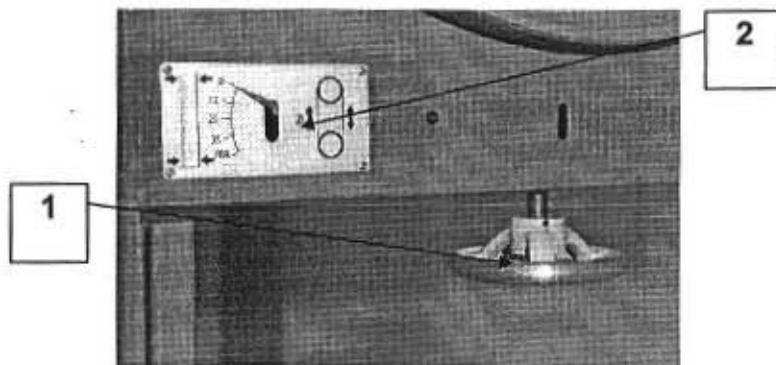

Figure 5.4
2. Turn handwheel (1) Fig 5.4, until blade can be pulled 6 mm (1/4") from its true line at central point between wheels. Blade is then tensioned correctly.
- 3) Tighten lock nut (1).
5.4 Tensioning a Saw Blade (using Tensioning Scale) (Figure 5.4)